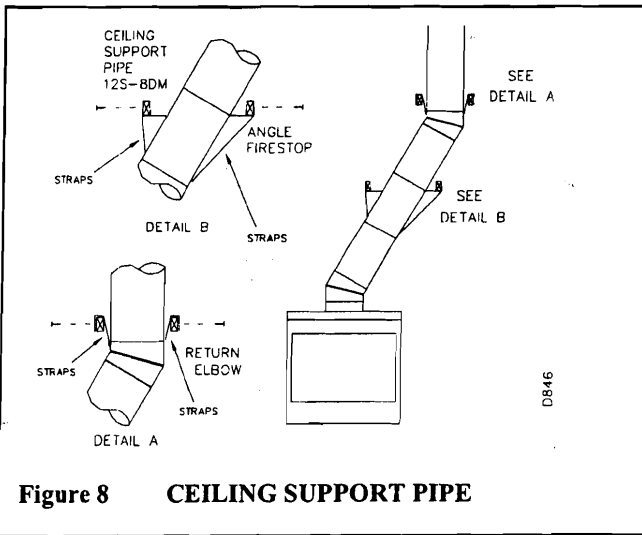

Figure 8 CEILING SUPPORT PIPE
2. Chimney weight above offset rests on return elbow. Straps must be securely nailed to rafters or joists (see figure 8, details a & b).